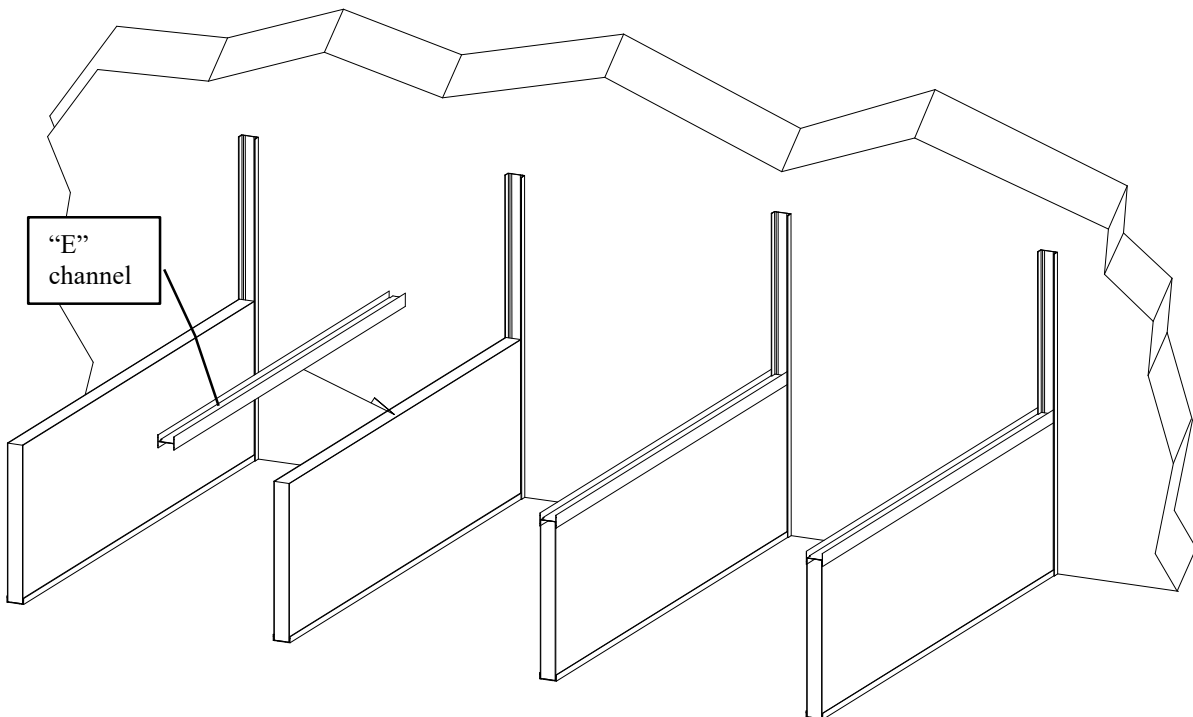

Figure 15
8. Install the “E” channels for the division walls on to the filler panel installed in step 8. Make sure the channels overlap to the same side as the bottom “A” channels. See figure 15.